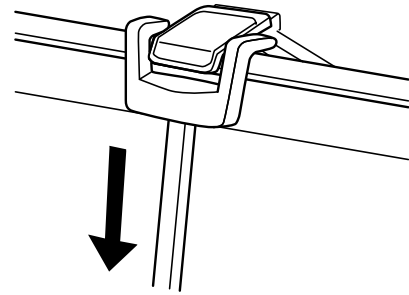

Figure 6
2. **On 90" and 100" models only** Place the end of the extending handle under the slat handle as shown below and lower the screen until you can easily reach the slat handle (Figure 6).